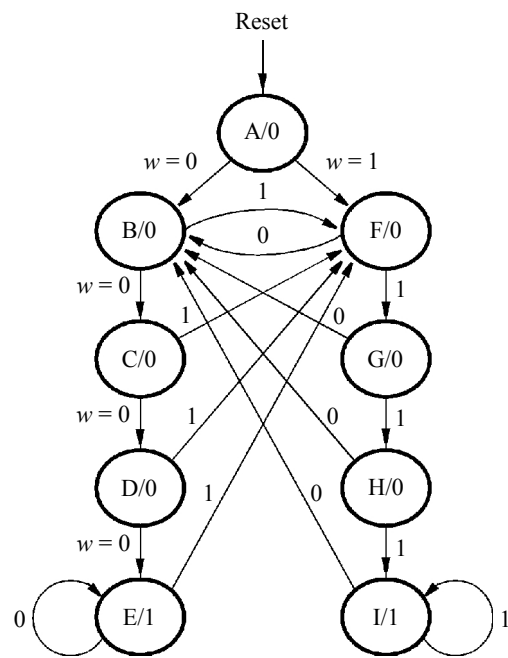

Figure 2. A state diagram for the FSM.
A state diagram for this FSM is shown in Figure 2. For this part you are to manually derive an FSM circuit that implements this state diagram, including the logic expressions that feed each of the state flip-flops. To implement the FSM use nine state flip-flops called y_8, \dots, y_0 and the one-hot state assignment given in Table 1.
For this part you are to write Verilog code for the FSM in Figure 2. Describe the state table for the FSM by using a Verilog **case** statement in an **always** block, and use another **always** block to instantiate the state flip-flops. You can use a third **always** block or simple assignment statements to specify the output z . To implement the FSM, use four state flip-flops y_3, \dots, y_0 and binary codes, as shown in Table 3.
4. To examine the circuit produced by Quartus II open the RTL Viewer tool. Double-click on the box shown in the circuit that represents the finite state machine, and determine whether the state diagram that it shows properly corresponds to the one in Figure 2. To see the state codes used for your FSM, open the Compilation Report, select the **Analysis and Synthesis** section of the report, and click on **State Machines**.